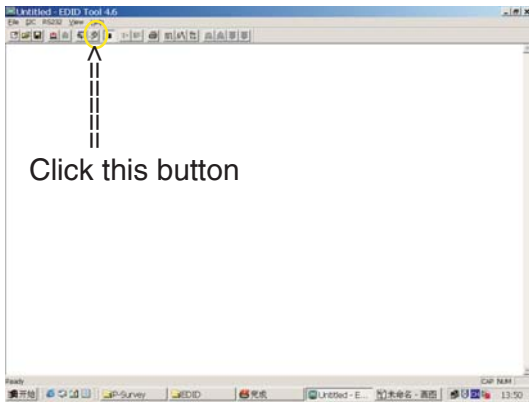
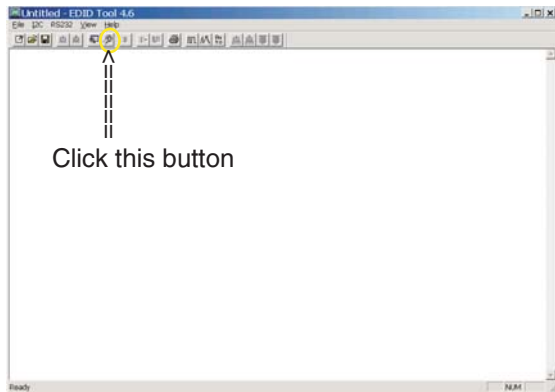

Fig. 11
Fig. 32
1. Click icon as shown in Fig. 11 from the tool bar to bring up the Channels "Configuration Setup" windows as shown in Fig. 11.
- 1. Click icon as shown in Fig. 11 from the tool bar to bring up the Channels "Configuration Setup" windows as shown in Fig. 32.